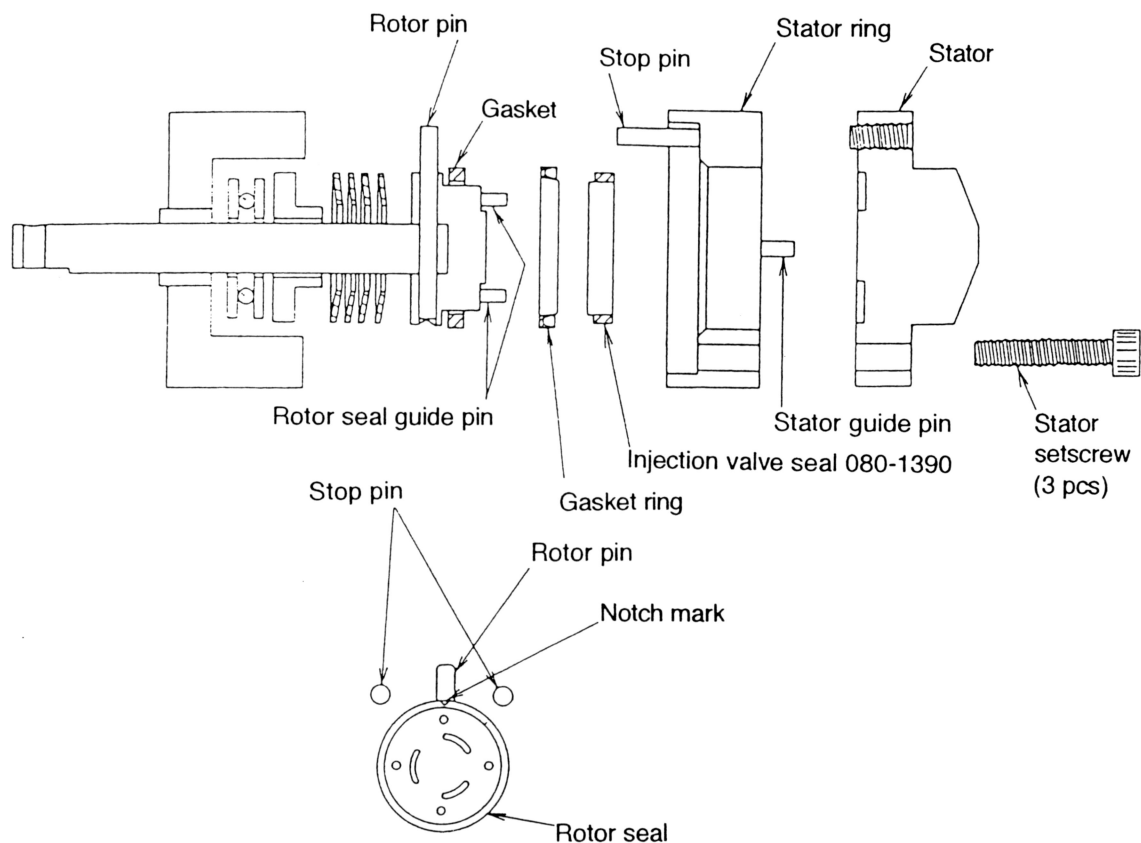

Figure 6-4 Structure of Injection Valve
Replace the injection valve seal in the following manner (see Figure 6-4 for the structure of the Injection Valve).
3. Mount a new injection valve seal so that the notch mark on its circumference aligns with the rotor pin as shown on the bottom of Figure 6-4.